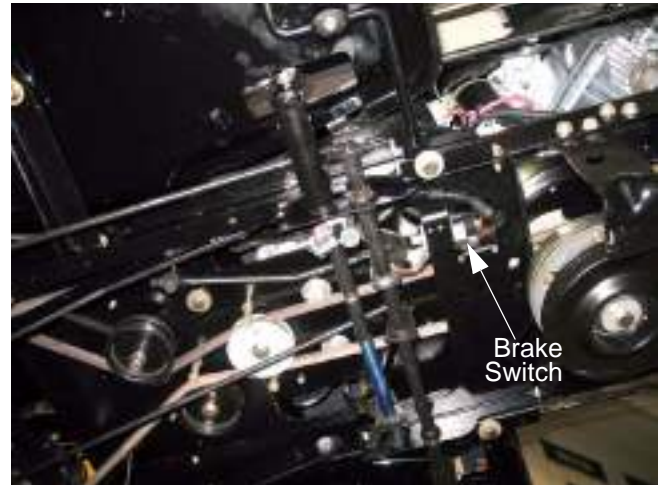

Figure 7.8
- 3a. A-COM is in the starter inhibit circuit. It is a normally closed (NC) set of contacts. When the PTO is OFF, and the contacts are closed, power coming from the brake switch (key switch in START, brakes ON) through the orange wire with black trace is passed on to the trigger terminal on the starter solenoid through the orange wire with white trace.
- 3b. B-COM is in the safety shut-down circuit. It is a normally opened (NO) set of contacts. A circuit is completed from the M terminal on the key switch through the yellow wire to the Magneto terminal on the RMC module through the yellow wire with black trace when the contacts are closed. This gives the RMC module the ability to turn off the engine when the PTO is ON.
- 3c. In C-Com, power is supplied to the PTO switch from the A1 terminal of the ignition switch through a red wire. When the PTO switch is turned on, this completes the circuit to allow power to go to the PTO clutch. It is a normally opened (NO) set of contacts.
4. The **Brake Switch** is mounted to the inside of the frame on the right side. See Figure 7.8.